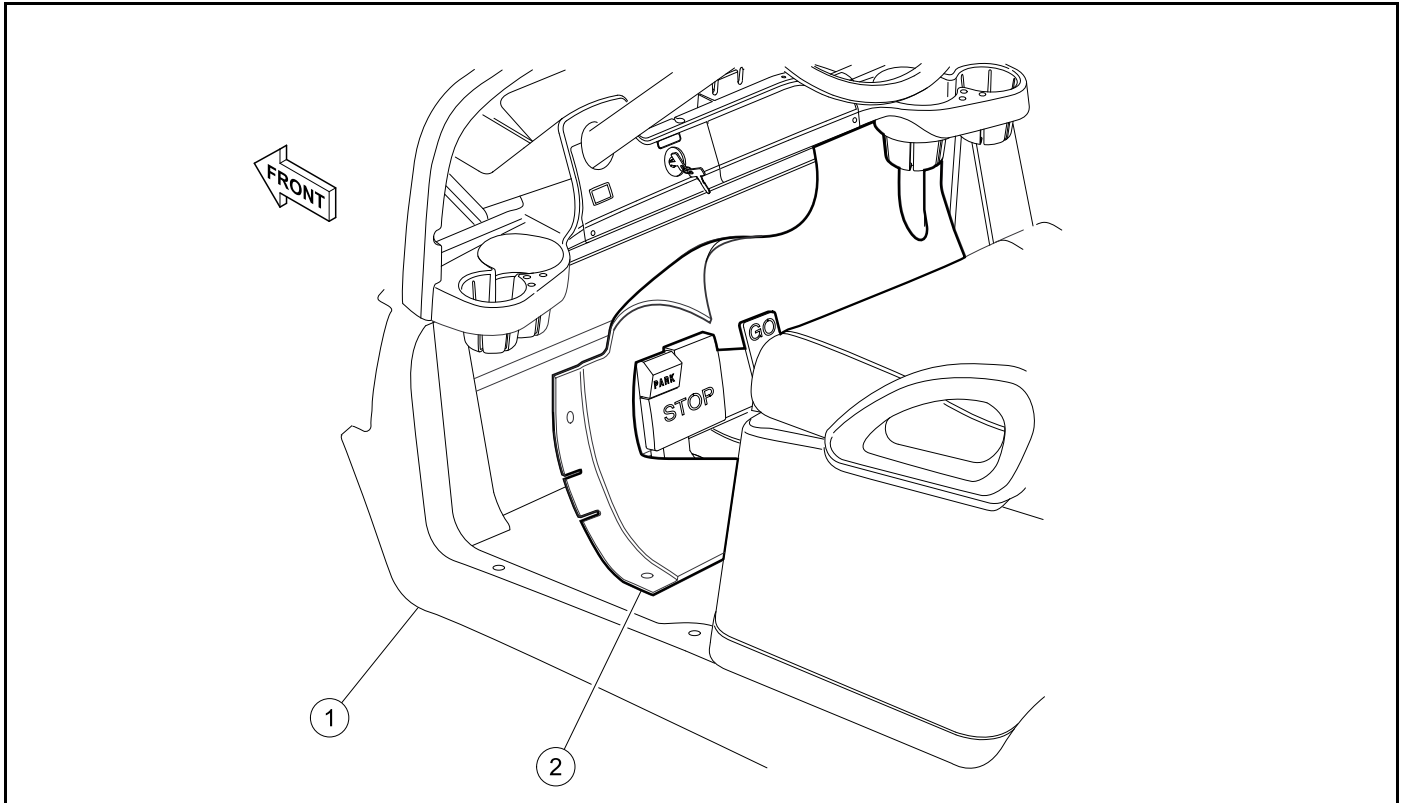

Figure 5-5
2. Remove the floor mat retainer (1) (Figure 5-5).